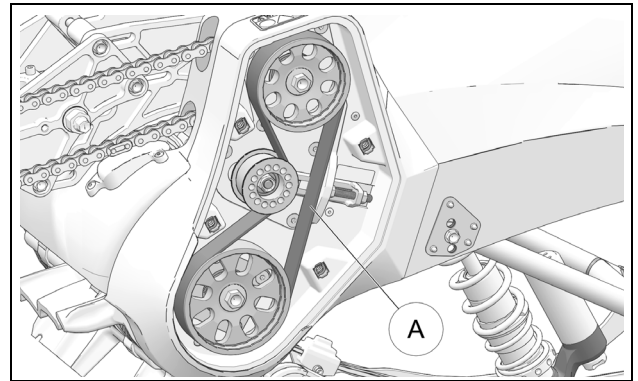

Figure 60
Check the general condition of the Syncro Drive belt (A). If you notice cracks or missing teeth, if cord is showing or there is abnormal wear, replace the belt. Figure 60.